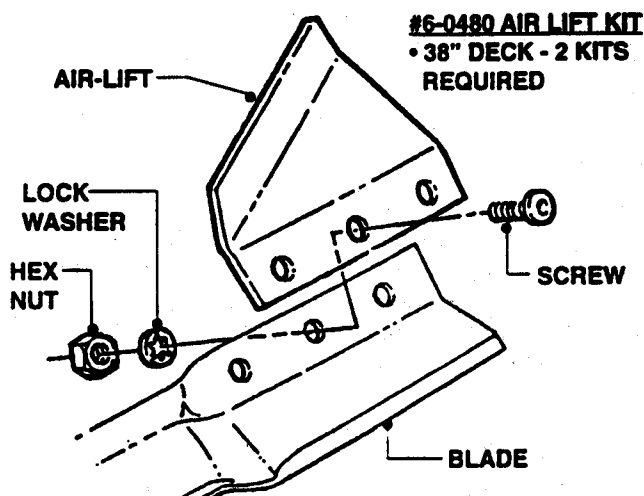

FIGURE 2A
STEP 2A: Air Lift Installation. Engines that produce less than 14 horse power. Air Lifts should already be installed on blades. Use Air Lift Kit 6-0480 if machine does not have air lifts. Remove existing blades from mower. Install air lifts to the tips of blades using nuts and bolts supplied with kit. Be certain to install lifts to both ends of both blades. Torque nuts and bolts to 20 to 30 ft. lbs. on air lifts. Using existing hardware, reinstall blades to mower deck. Torque blade retaining bolts to 80 to 90 ft. lbs. See Figure 2A.